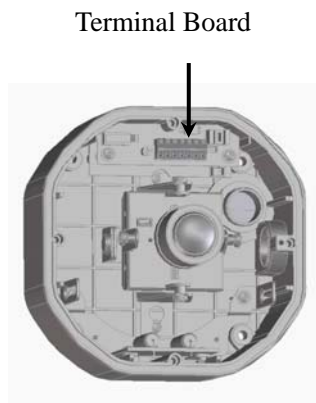

Figure 8
e. Optional connect to Alarm(Please see figure 8 for terminal functions)